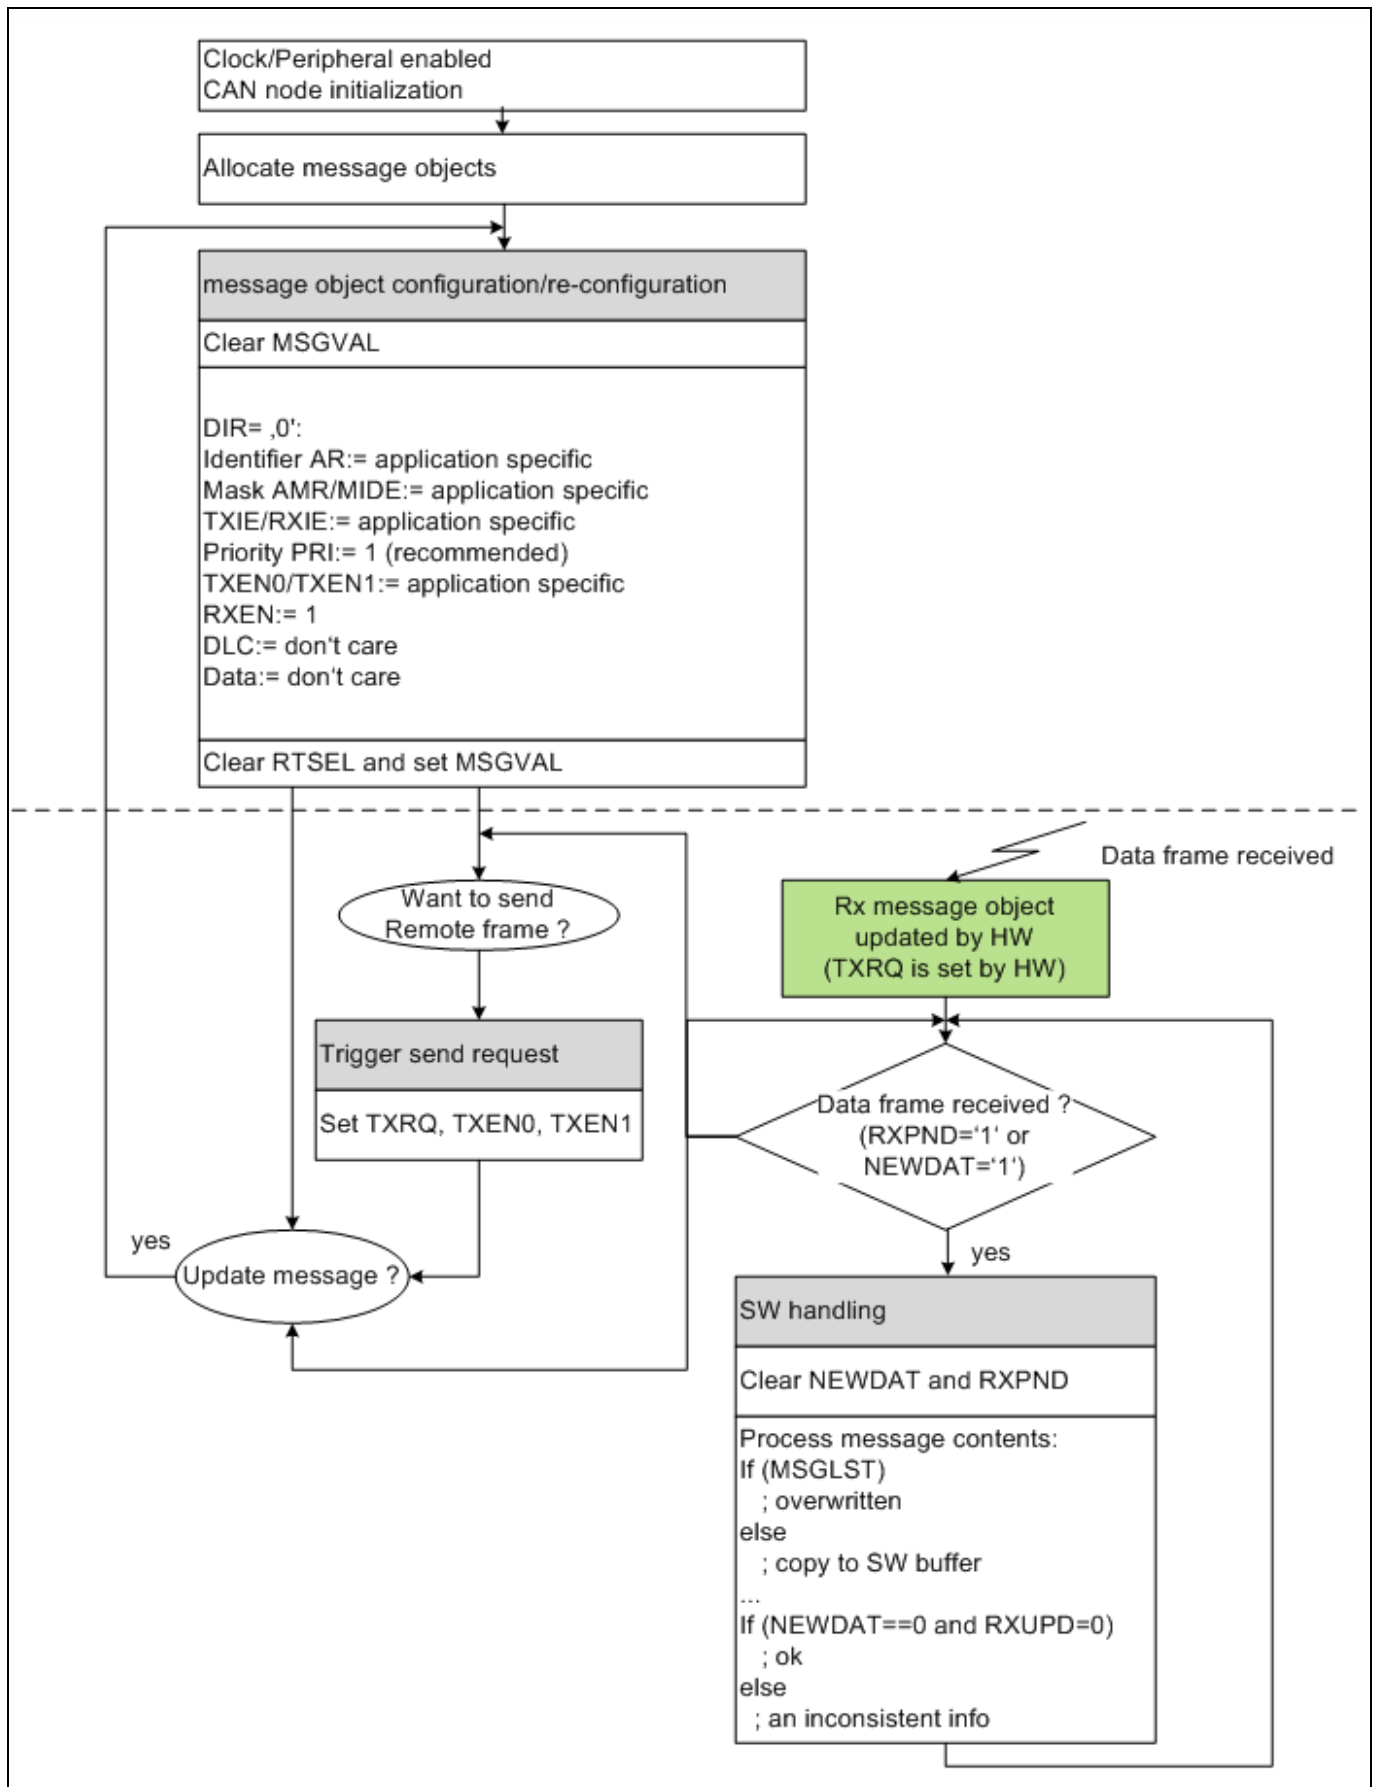

Figure 12 Software handling of a RX message object (DIR='0')
**Figure 12** demonstrates the software handling of a receive (RX) message object (DIR='0').
The left-hand side of Figure 12 shows the FIFO structure in one common list and initialization of RxFIFO message objects: